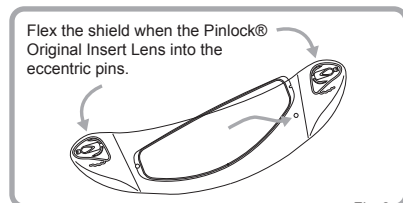

Fig.3
- ② Flex the shield carefully until the shield becomes flat. Then, click the other side of the Pinlock® Original Insert Lens into the eccentric pins and then allow the shield to return carefully to its original curved shape. (Fig. 3 and 4) (Follow 3)
- ③ Make sure if the overall silicon seal of the Pinlock® Original Insert Lens is attached firmly to the shield by mounting the shield on the helmet. If there is any space between them, refer to “How to Adjust Pinlock® Original